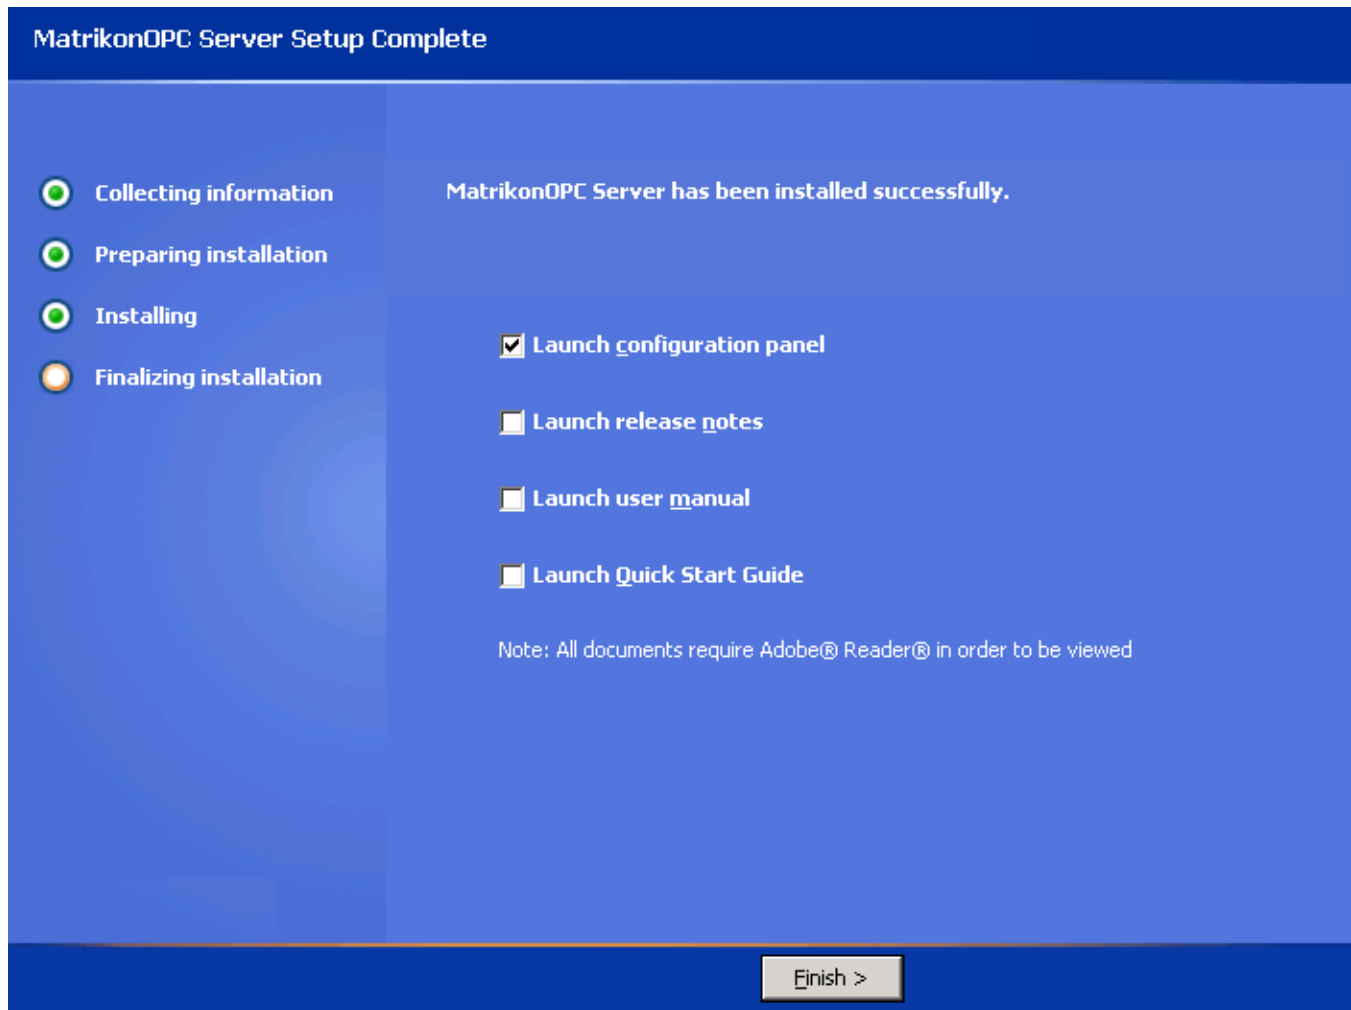

Figure 93 - MatrikonOPC Server Setup Complete Screen
20. When the installation has finished, the **MatrikonOPC Server for SCADA Modbus Setup Complete** screen (Figure 93) appears stating that the MatrikonOPC server has been successfully installed.